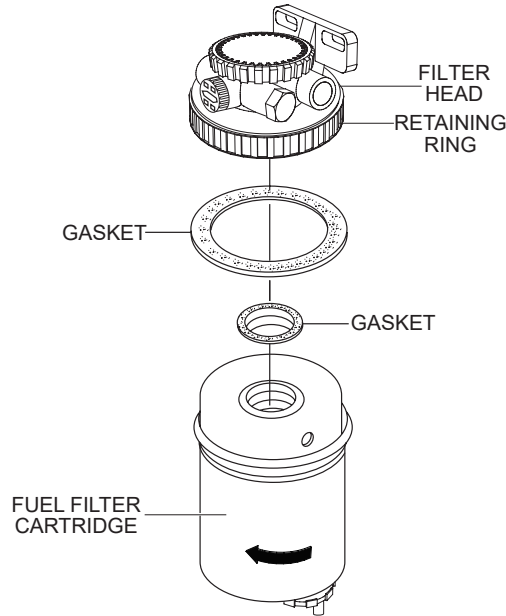

Figure 63. Fuel Filter Cartridge Replacement
1. Using a **filter wrench**, remove the **fuel filter cartridge** from the filter head (Figure 63).
2. Wipe the inside of the **filter head** (Figure 63) with a clean cloth to remove any foreign matter or debris that may have accumulated.
3. Replace both **gaskets** (Figure 63). Coat each gasket with a small amount of clean 15W-40 engine oil.